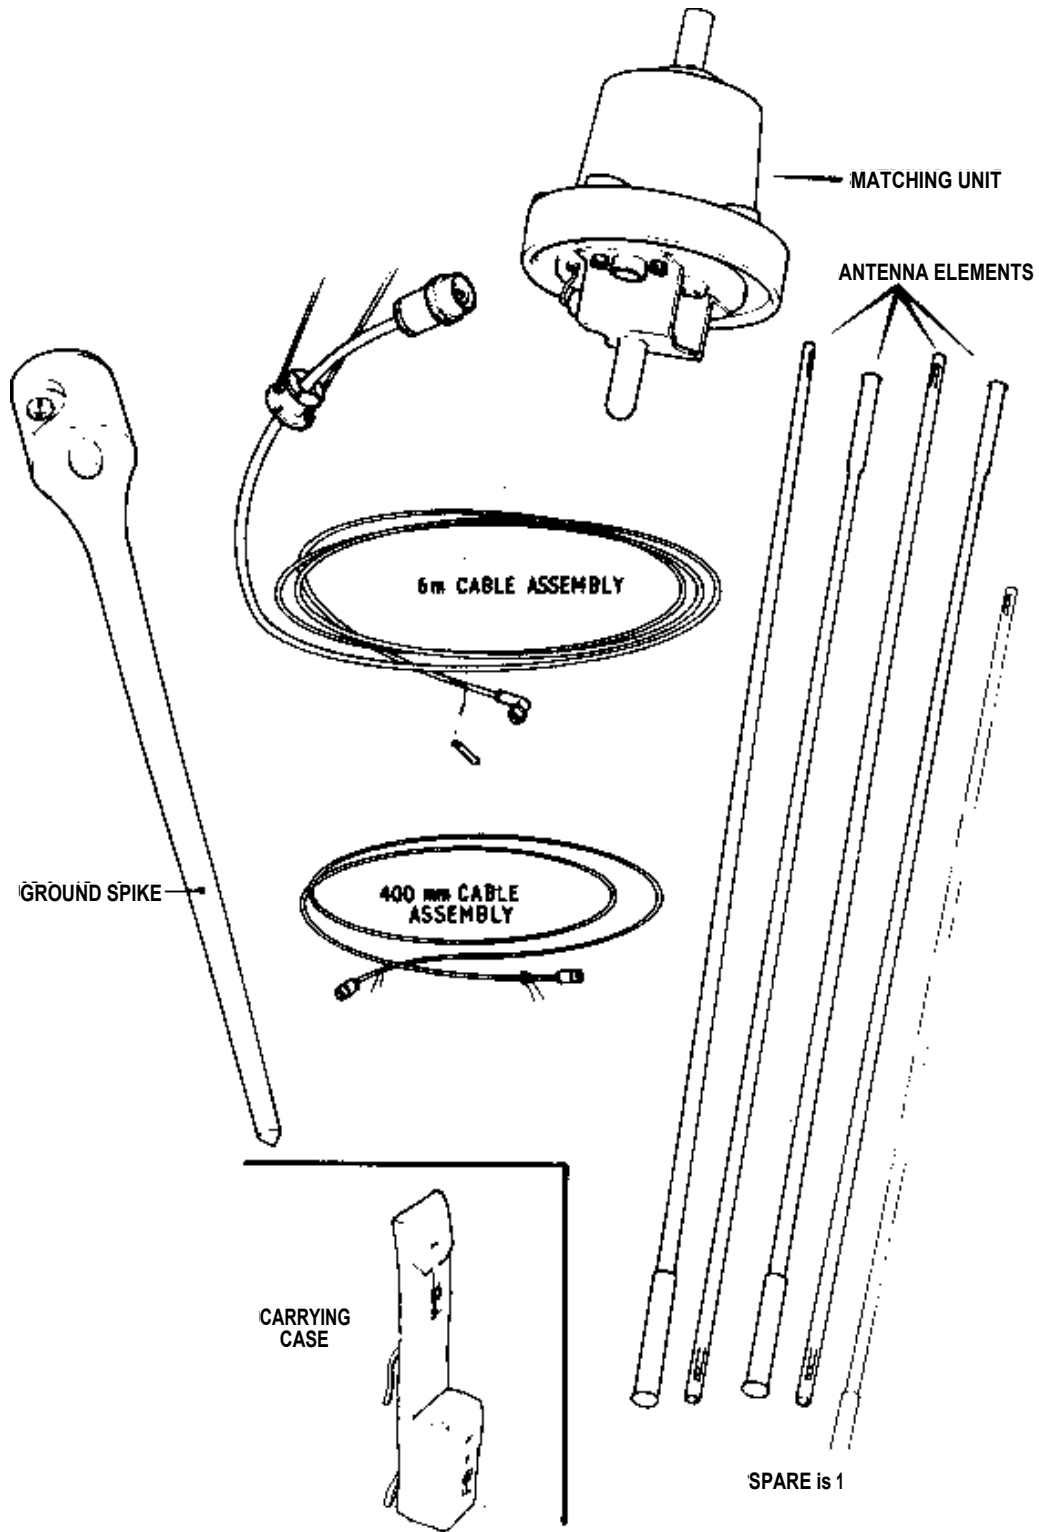

Fig.21 Items Forming VHF Ground-Spike Antenna Assembly
3. The Antenna (Fig.21) consists of a rod radiator, matching unit, ground-spike and connecting cables. The rod radiator is provided by four identical elements (together with one spare element) which plug into each other and into the top of the matching unit. The number of elements used depends upon the frequency band, to be covered. A fabric carrying case (page 44) is provided to house the antenna.